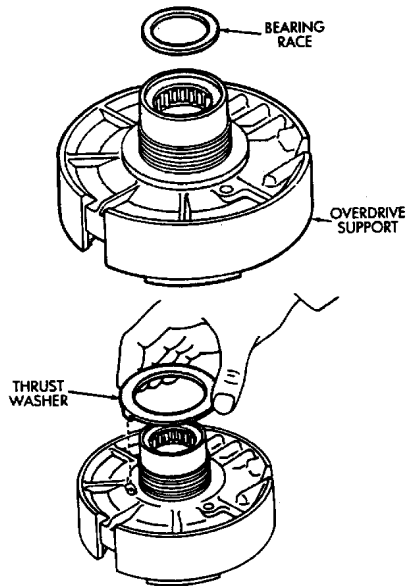

Fig. 4 Removing Clutch Drum Thrust Washer And Race
(5) Install support bearing race and clutch drum thrust washer (Fig. 4).